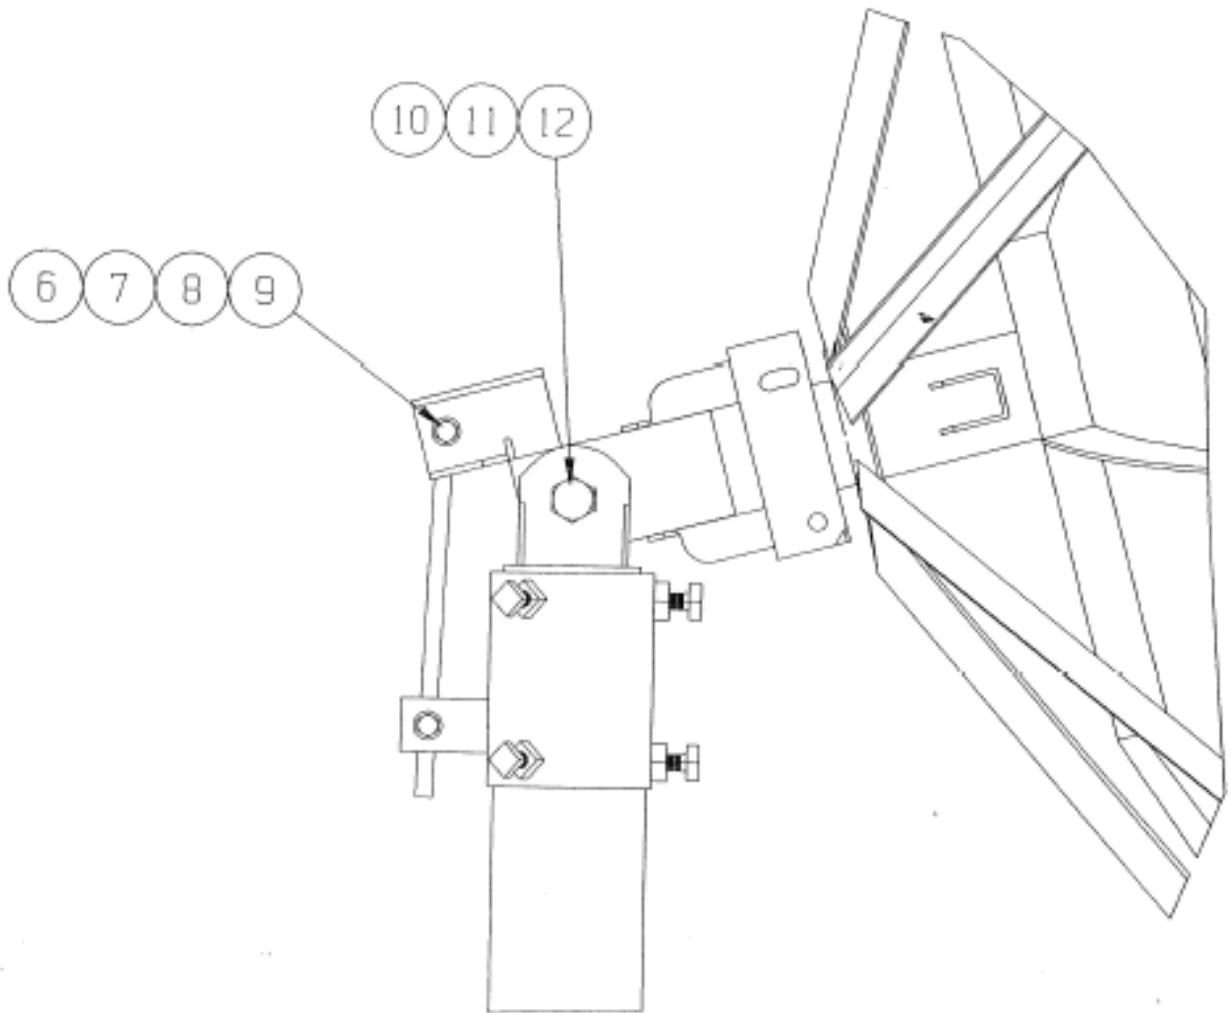

Figure 3.4-2
1. Attach the plate (item #1) to the polar axis joint with two 1/2-13 x 1.50" bolts, flat washers, lock washers and hex nuts (items #12,14,15,16). Figure 3.4-2